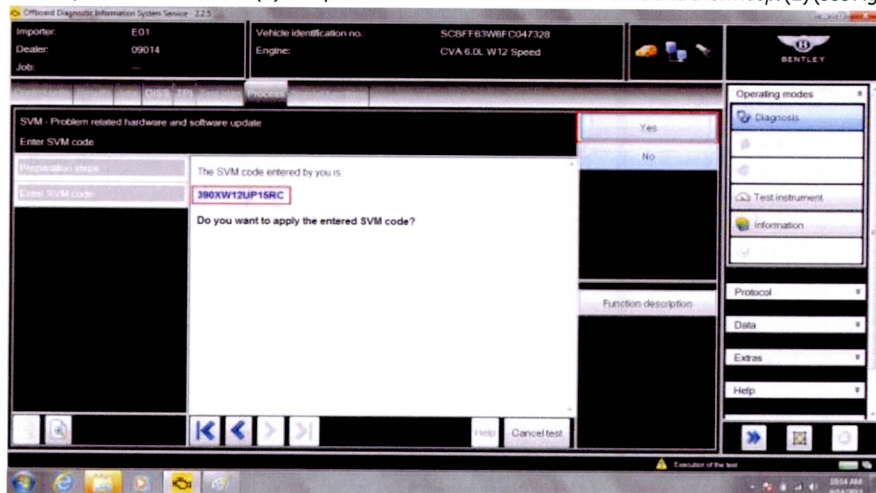

Figure 3
10. Check you have entered the correct SVM code and select *Yes* (see Figure 3)